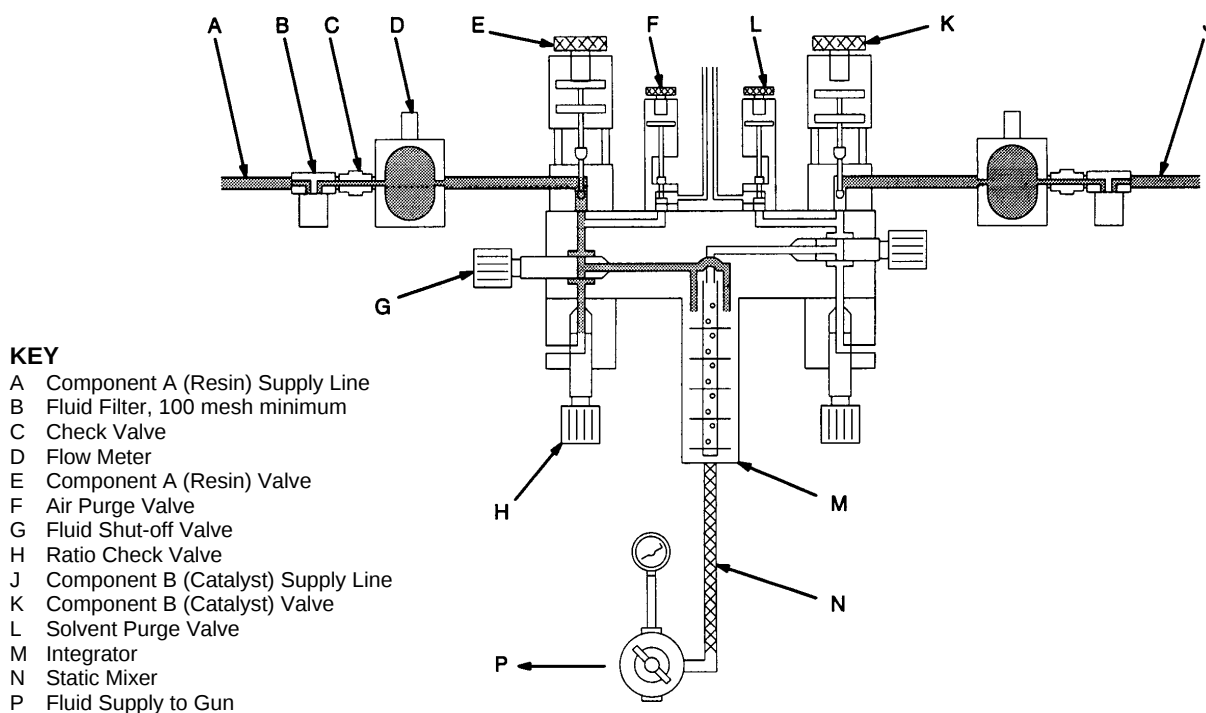

Fig 1
- First, the component A (resin) dispense valve opens, and the fluid begins to flow into the integrator chamber. When the correct quantity has been dispensed (based on the calculated target value), the component A dispense valve closes. See Fig. 1. During the dispense the current flow rate is measured and compared to the desired flow rate. The control adjusts the fluid pressure of the A component to match the desired and actual flow rate.